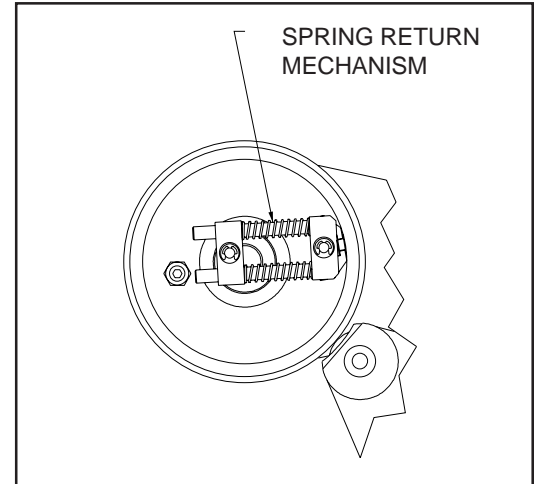

FIGURE 1
**Indexing coders** contain a print drum spring return mechanism which provides print registration capabilities when carton printing (see Figure 1). As the trailing edge of a carton passes the coder, the print drum automatically rotates back to the same starting or “home” position. There must be adequate space between cartons at any given line speed for this mechanism to work properly. Printing with an indexing coder will allow the imprint on each carton to be registered in the same position relative to the leading edge of the carton. The code will repeat every 18" down the length of the carton.